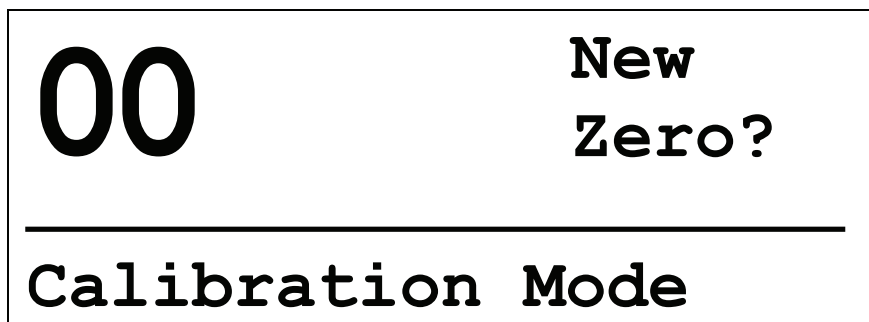

Figure 24: Calibration Mode
The Calibration Mode is used to calibrate the Agrifeed 5500 scale system to a known weight value, thus establishing an accurate weight indication throughout the weighing range. Access the Calibration selection as described in section 3.3. From the Calibration Setup Menu Selection, press [YES] to access the calibration routines (see Figure 24).
2. Press [YES] to access the calibration routines (see Figure 24).
3. Press [YES] to access the calibration routines (see Figure 24).